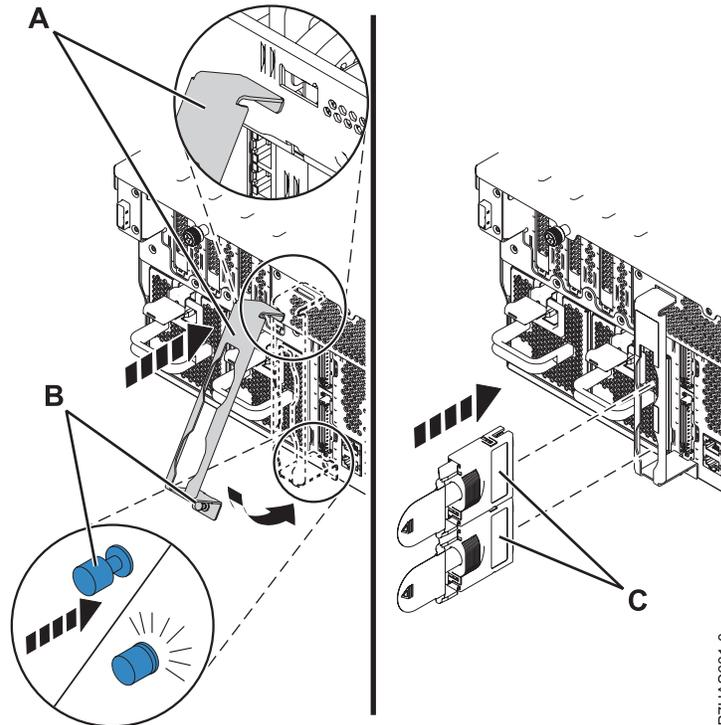

Figure 3. Installing the cable retention bracket
15. If the cable retention bracket (**A**), shown in Figure 3 on page 4 is provided, perform the following steps:
- a. Tilt the cable retention bracket (A), shown in Figure 3, to hook the tab at the bottom of the bracket into the slot in the assembly.
- b. Swing the cable retention bracket toward the chassis and push the bracket fastener (B) into the chassis opening to secure the bracket.
- c. From the rear of the system, attach the adapter cables (C).